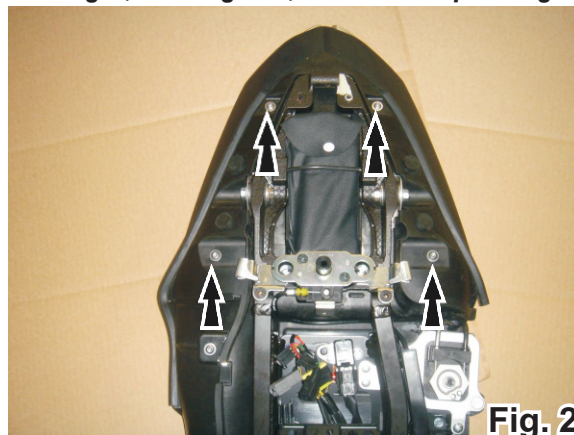

Fig. 2
- 3 Remove the black plastic trim piece at the tip of the tail section by removing the 4 bolts shown in Figure 2. Unplug electrical connections to taillight, turn signals, and license plate light.